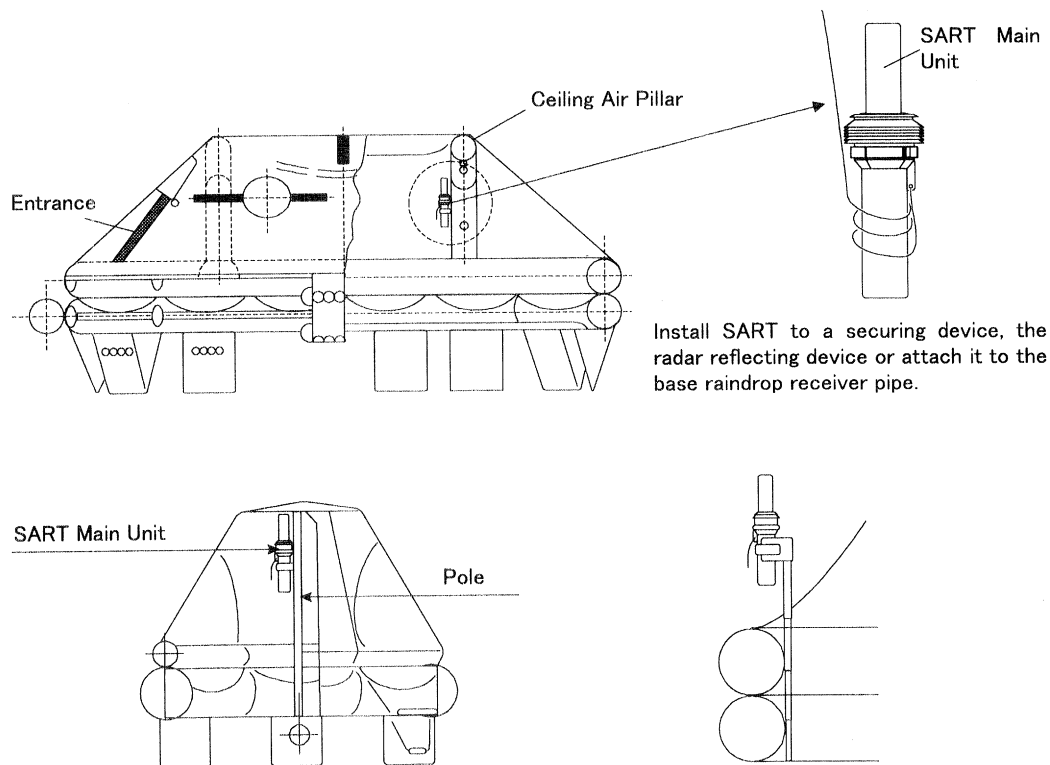

Fig. 4.4 Installation of SART on a life raft.
- (1) Switch off the radar of the own ship.
- (2) Remove SART from the storage location and transport it to the life raft.
- (3) Switch the SART power ON. (Refer to 4.2.1 How to Switch the SART Power ON)
- (4) It is ideal to install SART outside on the raft in a location without any obstruction to the radar signals. Select a method similar Fig. 4.4 taking into account the structure of the raft.